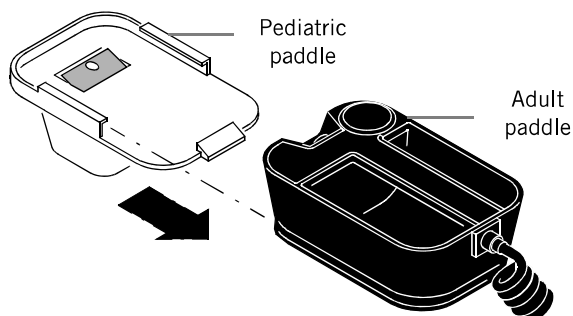

Figure 6-6 Attaching a Pediatric Paddle
1. Slide the paddles onto clean adult paddles, starting at the front of the adult paddle (see Figure 6-6).